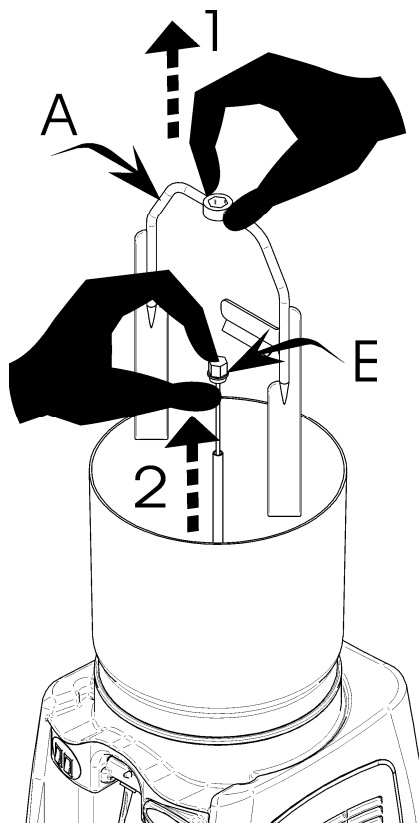

Figure 7
- 4°.- Pull out (1) the mixer paddles (A), throwing of them up, take out (2) the shovel pole (E) of the central tube throwing up (Fig.7).